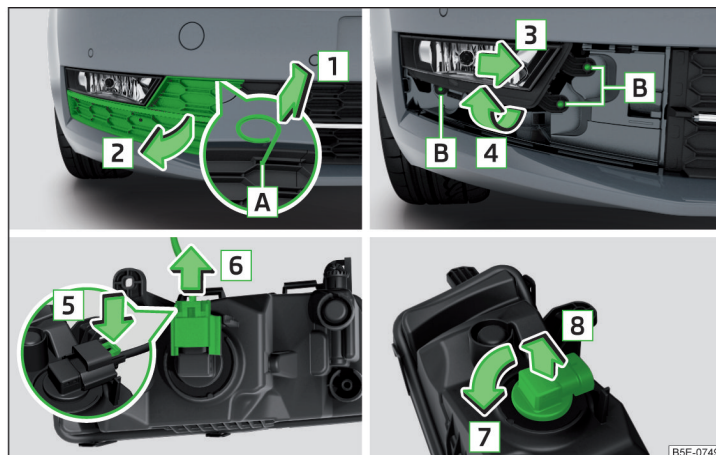

Fig. 351 Remove the fog lamp / bulb change - variant 1
- › Insert the clamps for removing the full wheel trims into opening **A** » Fig. 351.
- › Insert the fog light opposite to the direction of arrow **4** » Fig. 351, push opposite to the direction of arrow **3** and bolt into place.